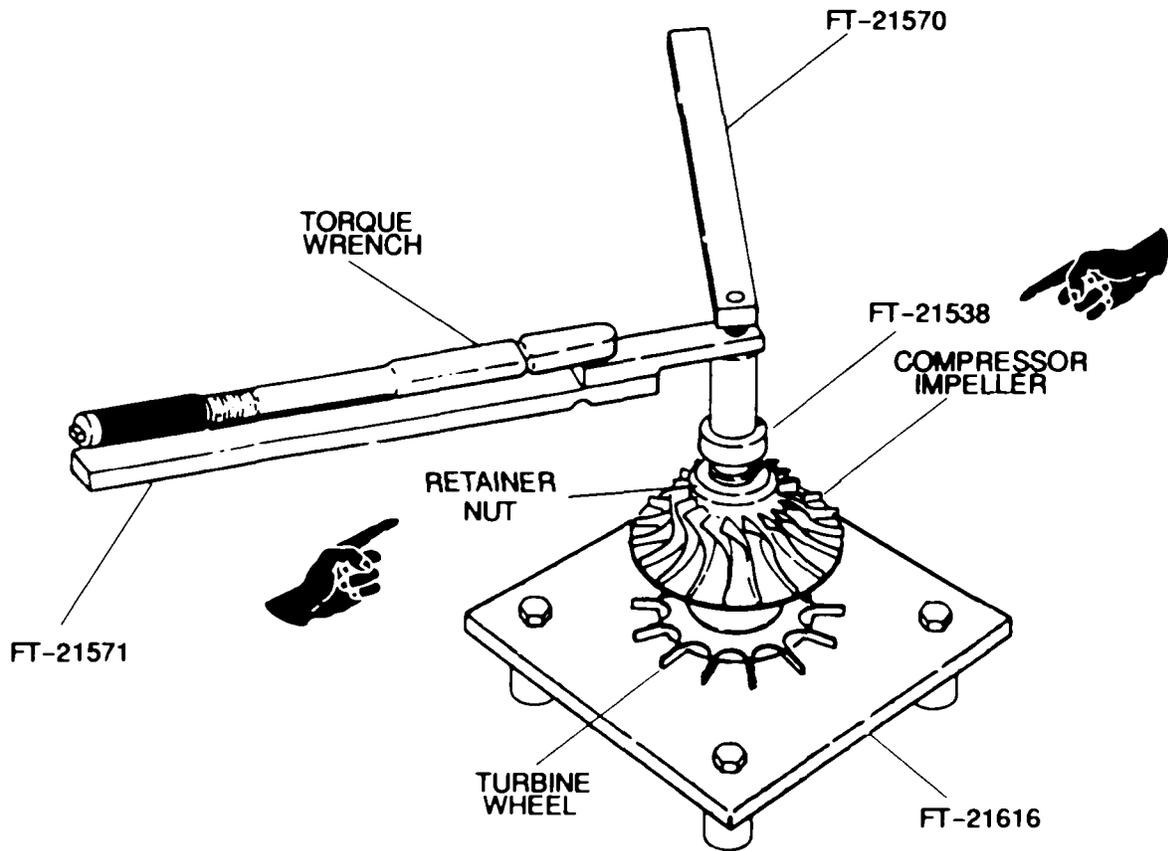

Figure 8-11. Removing/Installing Retainer Nut Using Fabricated Tools FT-21538, FT-21570, and FT-21571
**(2)** Place turbine wheel (20) In fabricated tool (FT-21616, Figure 8-11)
**(3)** Heat labyrinth seal (19) and dummy bearing fabricated tool (FT-21538, Figure 8-11) to 250-350° F (121 1-176 60 C), approximately 20-30 minutes
Second dummy bearing fabricated tool, (FT-21538, Figure 8-11) is used in place of bearing (18, Figure 8-6) in this procedure.
**(7)** Coat dummy bearing fabricated tool, (FT-21538, , Figure 8-11) with turbine oil and Install without heat.
**(8)** Put turbine oil under retainer nut (15, Figure 8-6) Using fabricated tools (FT-21570, FT-21571, Figure 8-11) and torque wrench, torque retainer nut (15, Figure 8-6) to 300 inch pounds (33 90 Nm) Back off and re-torque to 50 Inch pounds (5 65 Nm)
**(10)** Using fabricated tools (FT-21570 and FT-21571, Figure 8-11) but without torque wrench, tighten retainer nut Remeasure shaft length as described In step (9), above Repeat procedure until 0 007 to 0 009 inch stretch has be achieved